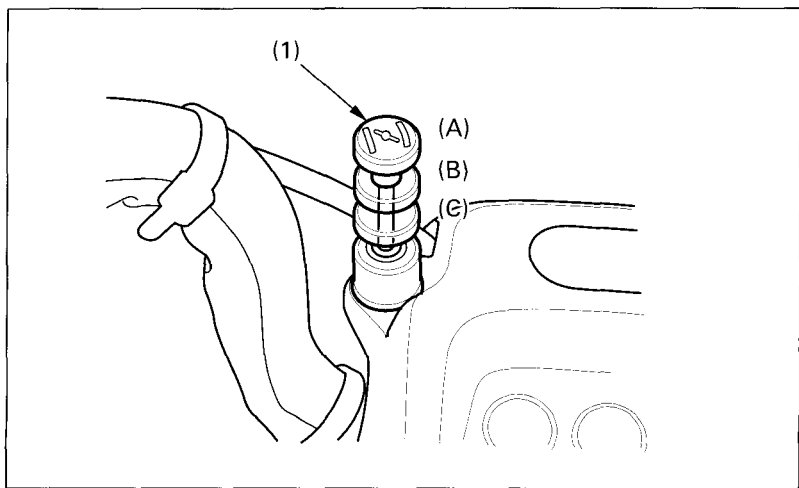

Fig. 2-6
The choke knob (Fig. 2-6) is located above the indicator lamp. The choke has three positions: fully ON (A), halfway position (B), and fully OFF (C).